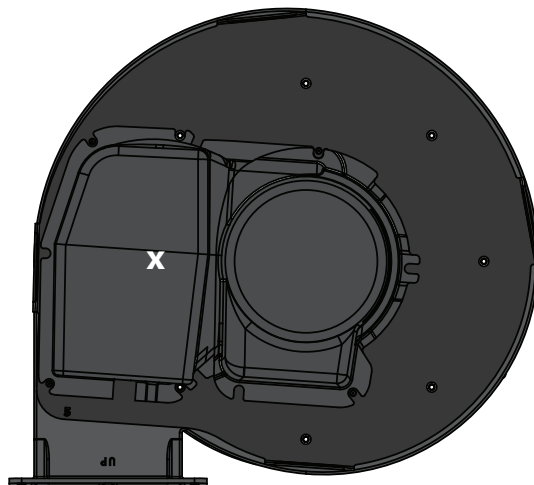

FIG. 6a
Carefully lift Motor Assembly (A) to top of Fan Housing (B) and align the Fan Housing holes with the motor plate holes following the orientation shown in [FIG. 6a].
*Note: The eighth hole on the Fan Housing (B) does not require a bolt because it is inaccessible [FIG. 6a].*